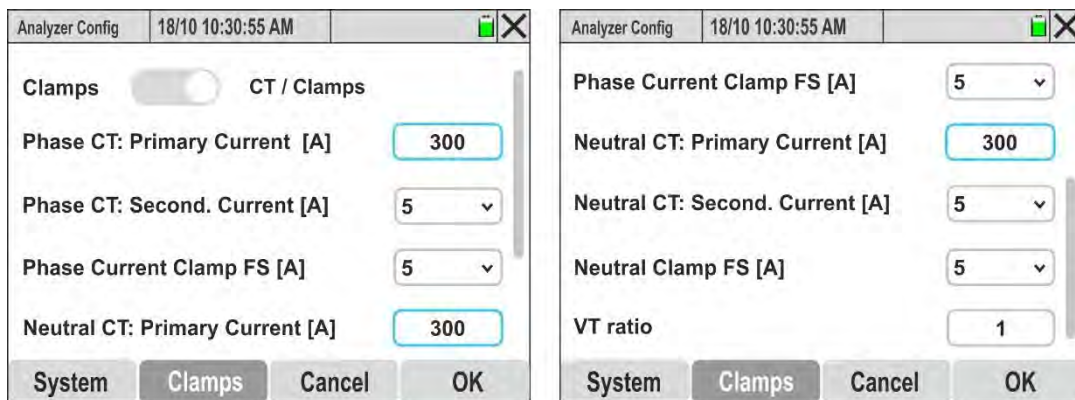

Fig. 23: External CTs current parameter settings (3-phase 4-wire system)
1. Select the "Clamps" item. The display of the instrument shows the following screen, whose entries **may vary** according to the type of system selected. The example of a three-phase four-wire system is shown in Fig. 23
5. Open the drop-down menu "∨" corresponding to the "**Phase CT: Second. Current [A]**" by selecting from the options: **1A** or **5A** (in the case shown in Fig. 23, a CT with a 300A/5A ratio was set)
9. Open the drop-down menu "√" corresponding to the "Neutral CT: Second. Current [A]" field by selecting from the options: **1A** or **5A** (in the case shown in Fig. 23, a CT with a 300A/5A ratio was set)
11. Touch the "VT ratio" field to set the transformation ratio of any voltage transformers (VT) present in the system in question in order to obtain correct readings associated with the primary circuit of the transformers themselves. The following screen will appear on the display: